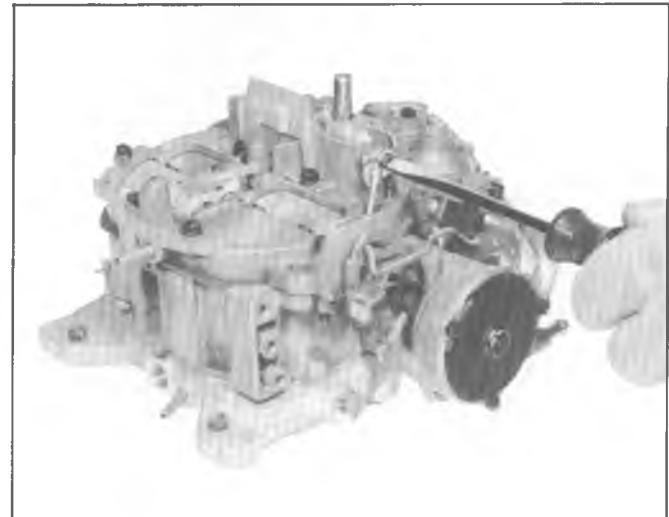

Fig. 6C-59--Choke Lever and Housing
6. Connect check rod into lower choke lever inside bowl cavity; they install choke rod into slot in upper choke lever and retain the choke lever to the end of the choke shaft with attaching screw. Tighten securely. When properly installed, the lever will point to the rear of the carburetor and the number on the lever will face outward (Fig. 6C-59).